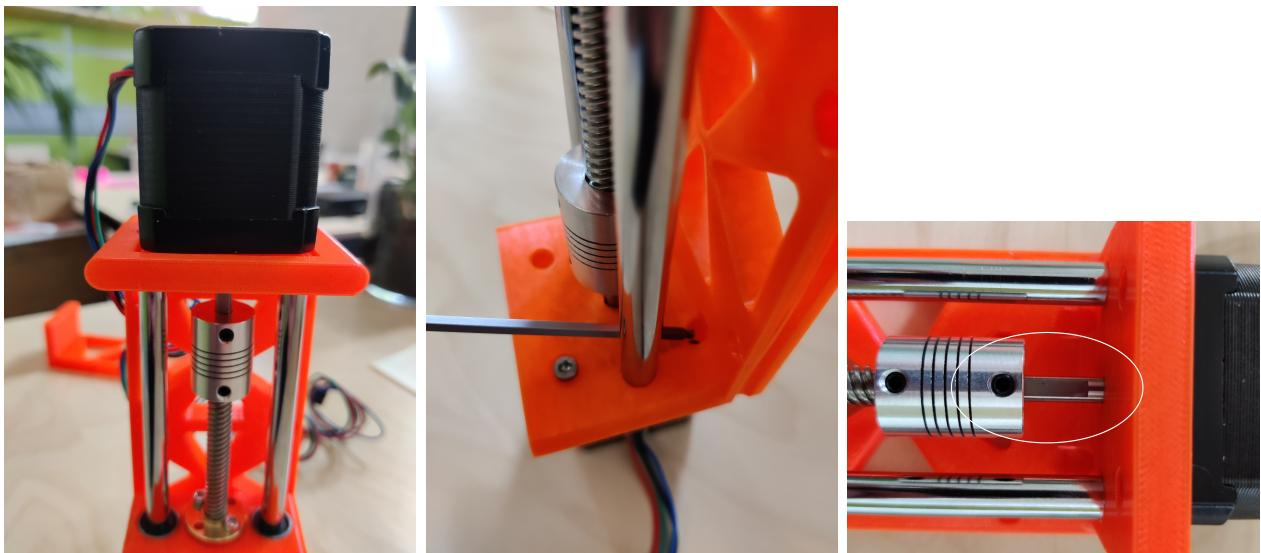

Fig. 4.7
6) Attach the motor to the top of the pump body. Make sure that the wires protrude in the direction of the ridge in the pump body (Figure 4.7, left). Screw the motor tight to the pump body with the 4 M6 screws (Figure 4.7, middle). Now fix the motor shaft in the flexible lead screw connector. Make sure that the flat part of the shaft aligns with one of the connector screws (Figure 4.7, right). You should now be able to rotate the flexible connector, causing the sledge to move up and down.